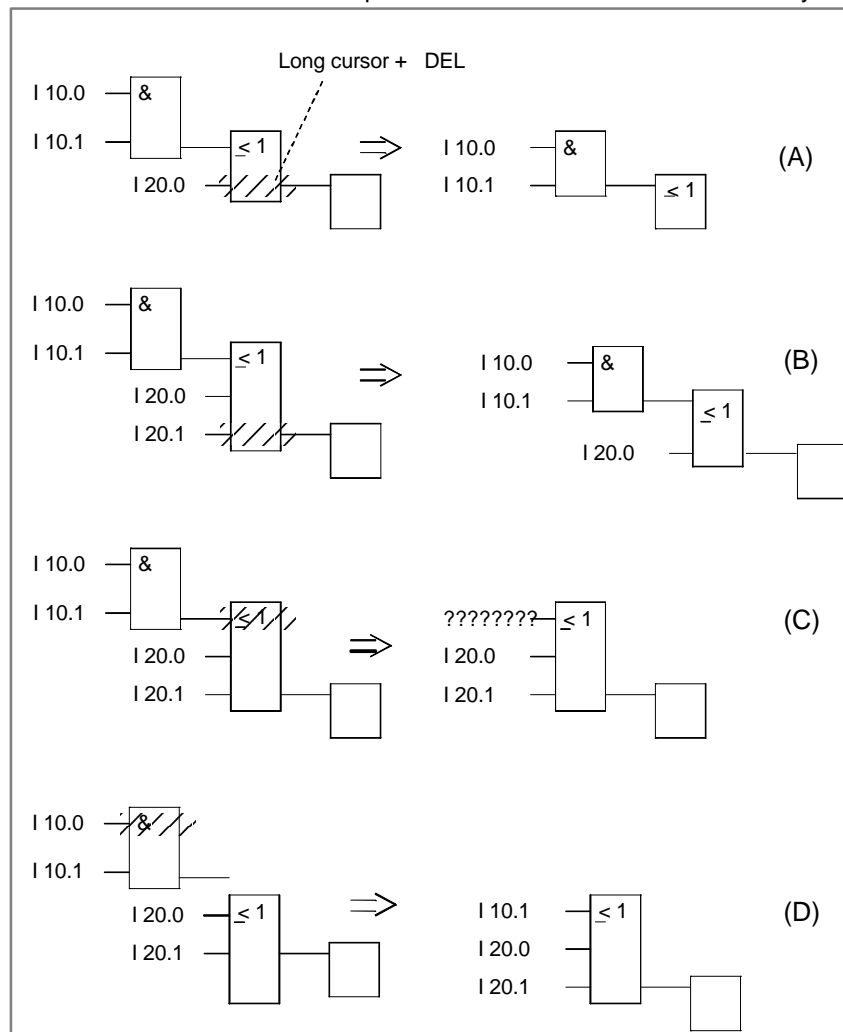

Figure 8-2 Deleting Operands and Functions (Example)
1. An input located under the long cursor is deleted. The function block itself is reduced in length by one line, see *Figure 8-2 (A)*.
2. If you delete a connected input, the function element before this input is also removed. The input is then displayed as non-connected, see *Figure 8-2 (B)*.
3. A function element with two operand inputs is removed. The remaining operand then occupies the free input of the next block, see *Figure 8-2 (C)*.